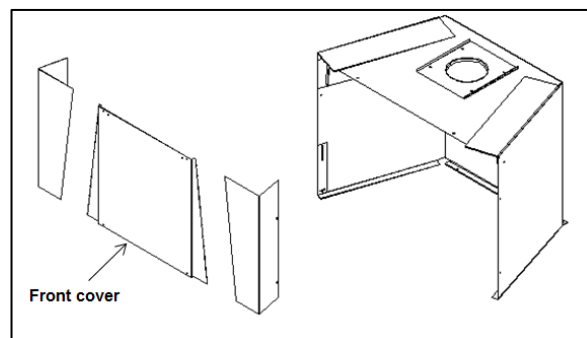

Figure 17: Circulating Chamber - Front Cover
- Remove the front cover of the unit and cut along the perforated lines to later use as the bottom cover within the masonry fireplace (Figure 17).